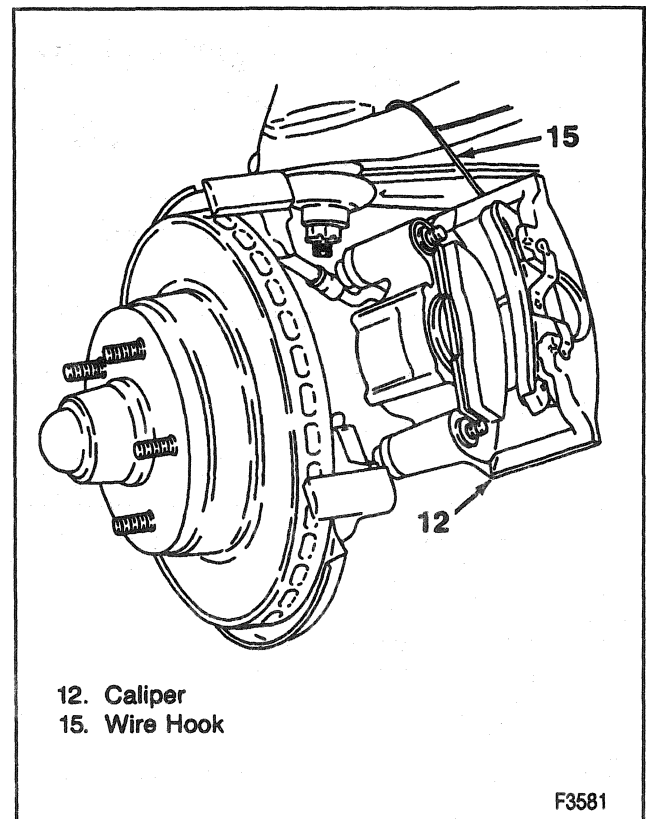

Figure 6—Suspending the Caliper
Remove or Disconnect (Figures 6 through 14)
- Suspend the caliper (Figure 6).